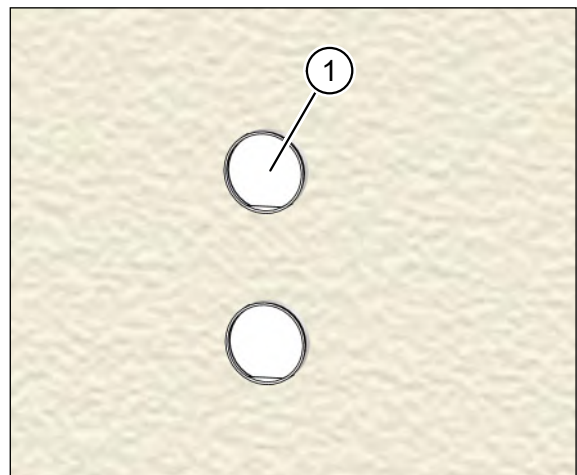

Fig. 33: Installation kit plastered on the outside
- ▶ Remove the two protective sleeves (item 1 in Fig. 33).